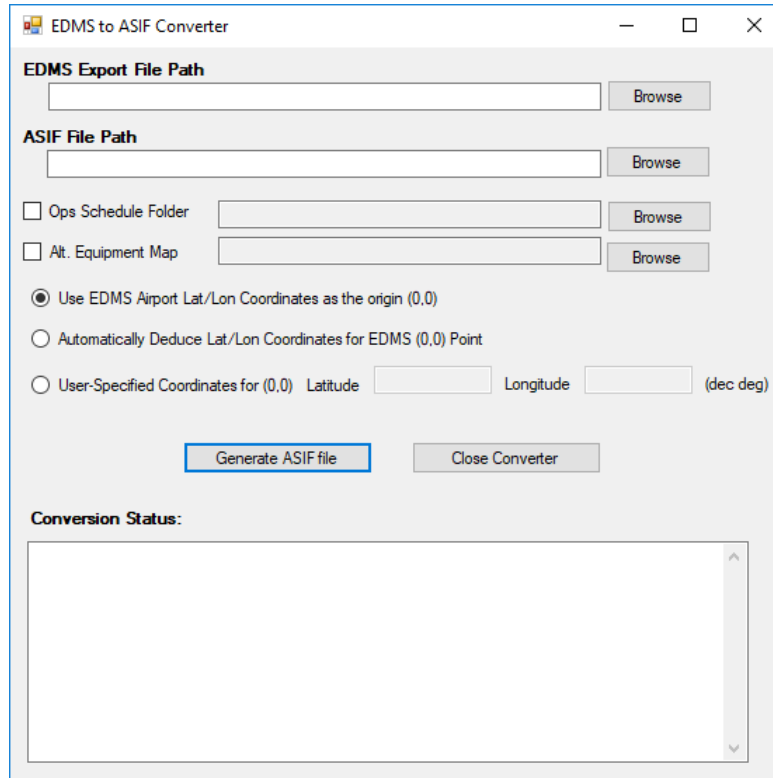

Figure 59. EDMS to ASIF Converter
2. Double-click the EDMS2ASIFv2.exe to open the EDMS to ASIF Converter (Figure 59).